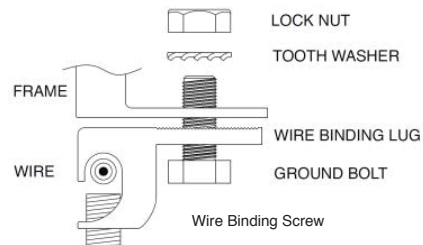

Figure 2 (IlSCO, GBL-4DBT)
**(1) Grounding Using Existing Ground Hole (Figure 2, GBL-4DBT)**